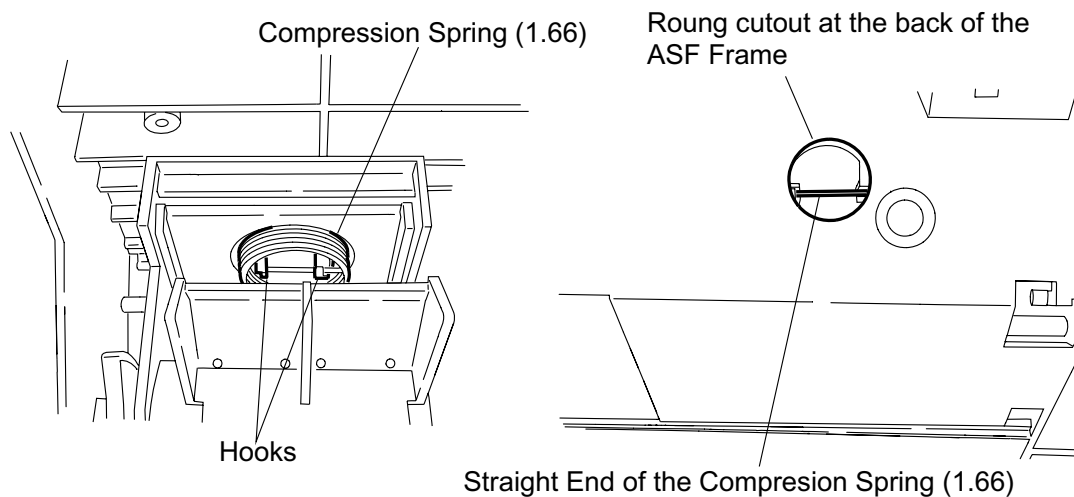

Figure 3-29. Releasing the Compression Spring
- ❑ Follow the instructions below when installing the hopper assembly into the ASF frame with the paper loading assemblies mounted on it: (See Figure 3-29.)
2. Hook the straight end to the frame as shown in Figure 3-29.
3. Insert tweezers through the cutout in the back of the ASF frame to release the tabs after mounting the hopper assembly. (See Figure 3-29.)